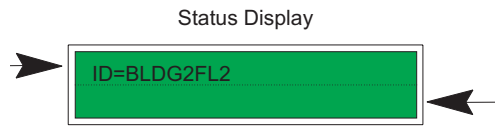

Figure F-1. Operator Panel Buttons
- IML button (refer to Figure F-1)